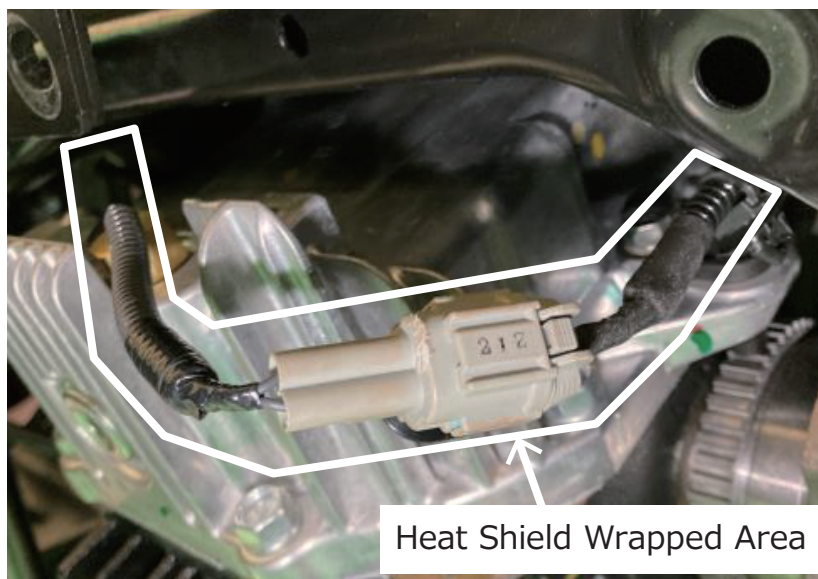

Fig.1 Heat Shield Wrapped Area of Diff Oil Temp Sensor Harness
(1) For vehicles with a diff oil temp sensor (Vehicle with stock LSD), cut out the attached heat shield and wrap it around the oil temp sensor harness within the area shown in Fig.1 for heat insulation.